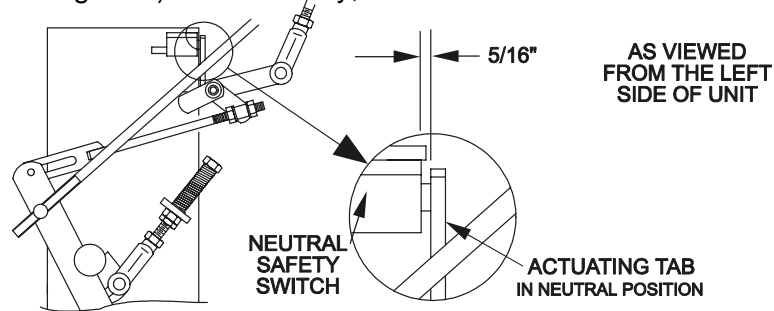

FIGURE 8
2. Move the speed control lever (located on the console) to the full forward position and check the orientation of the tabs on the ends of the speed control crank (See Figure 8). These tabs should be pointing straight down at the 6 o'clock position or slightly forward. Adjust the threaded yoke at the bottom of the speed control linkage (See Figure 8) until the tabs are positioned correctly.
3. Pull the speed control lever back to neutral. Check that the neutral safety switch actuating tab has depressed the plunger of the switch so that there is about 5/16" (.79 cm) between the tab and the switch (See Figure 8). If necessary, move the switch fore and aft.